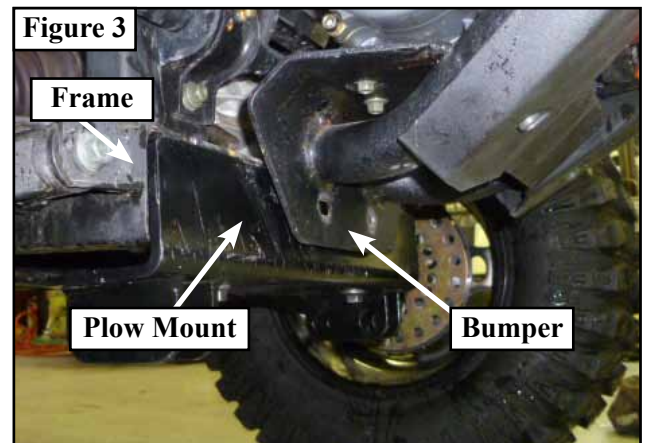

Figure 3
1. Set plow mount (1) in location (A) with the plow mount spacers (2) between the plow mount and the frame of the machine as shown in **Figure 1 & 2**. **NOTE:** Location (A) is used only as a reference in this manual. Some machines may require location (B). At location (B), the plow mount will go between the front bumper and frame. See **Figure 3**. The Plow mount spacers (2) may not be required on all machines.